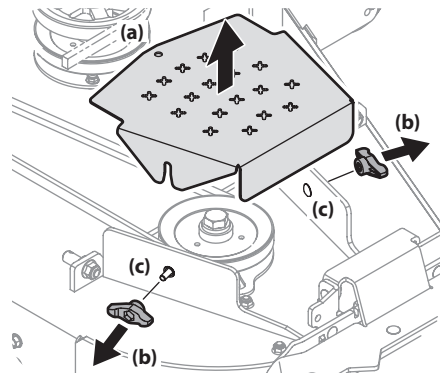

**Figure 4-22**
1. Remove the PTO belt (a) from the deck as instructed in the Deck Removal section then remove it from around the PTO clutch. See Figure 4-22.
2. Route the PTO belt (a) as shown in Figure 4-22. After routing the belt around the PTO pulley (b), use a ½" drive in the idler pulley bracket (c) and turn towards the right of the tractor to finish routing the belt around the idler pulley (d).